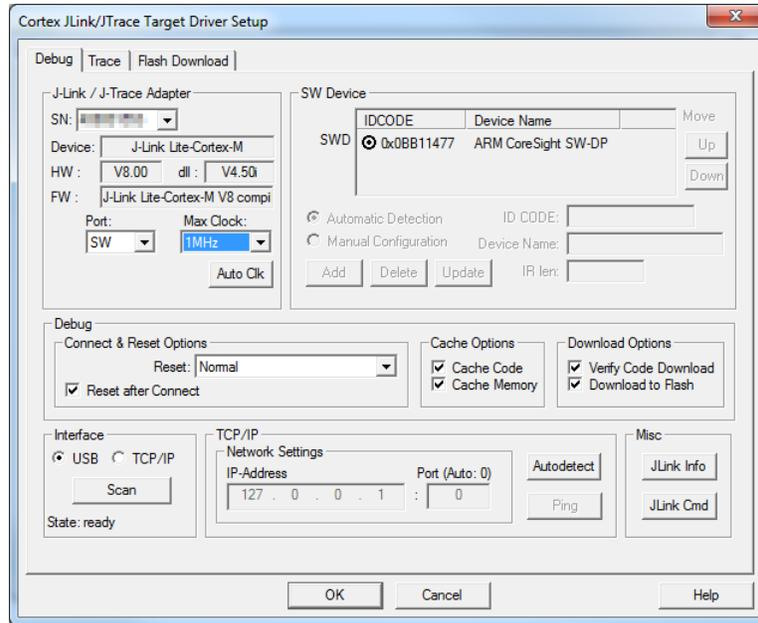

Figure 24 Target driver setup
8. In **Max Clock** the maximum speed for the debugging port cannot be exceeded (1 MHz). A proper configuration is shown in **Figure 24** on page 34.